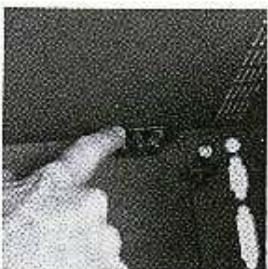

Figure 2-19
4. While holding the prong apart, rotate the spring clip so that it engages the center prong and keeps it spread, as shown in Figure 2-19.